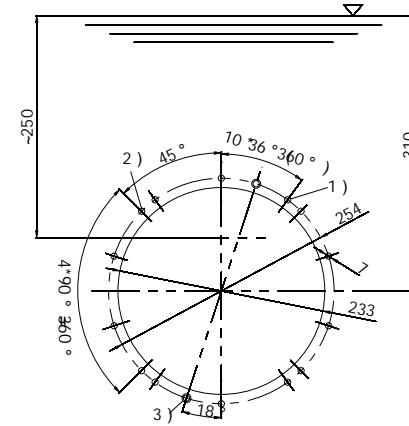

Figure 5
- a) For vinyl pool, according to the 16 holes on the counter current jet shell, first drill holes on the structural wall accordingly. (Figure 5)
- b) Install the plastic ring and the outer shell with 2 M6*20 screws (hole 3 of Figure 5), and then install the plastic ring and ring for installing on the fiber pool using 10 M6*45 screws .(Figure6)